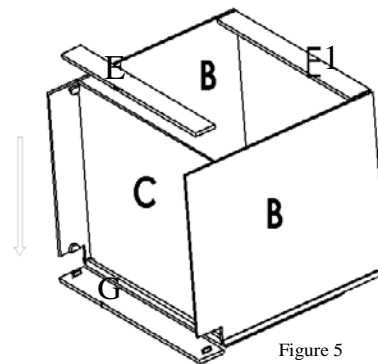

Figure 5
4. Installing the Back Braces and Toe Kick(Figure 5): Put the top back brace(E1) and the bottom back brace(E) at the rear of the side panel(B). Align them and lock each cam lock. Install the toe kick(G) by locking the cam lock at both ends.